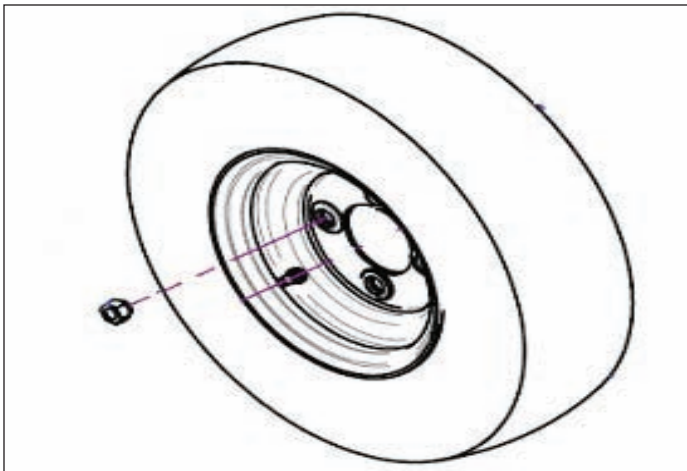
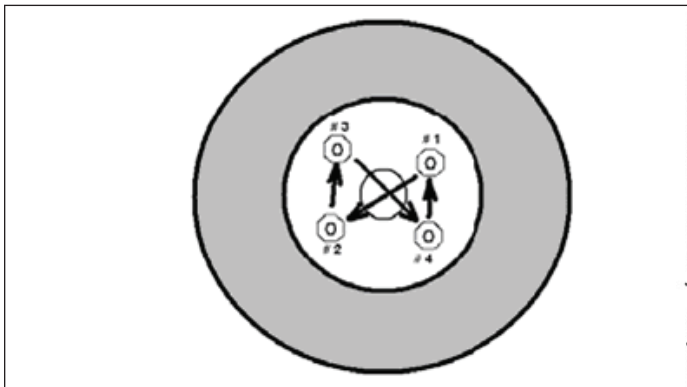

Figure 7-1. Rear Wheel Assembly
Figure 7-2. Criss-Cross Tightening Pattern
1. Before raising vehicle, with wheels on the ground, break loose the lug nuts (Figure 7-1).
7. Tighten four lug nuts (Figure 7-1) by hand and wrench until snug using a criss-cross pattern (Figure 7-2).